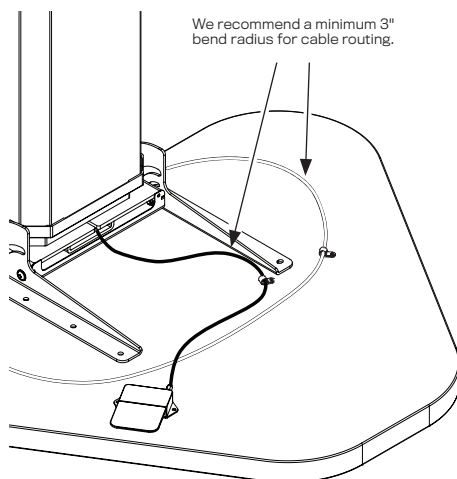

FIGURE 1
1. Make sure the cable that attaches the adjustment paddle to the top of the column is making a large smooth arc underneath the table surface (Figure 1).